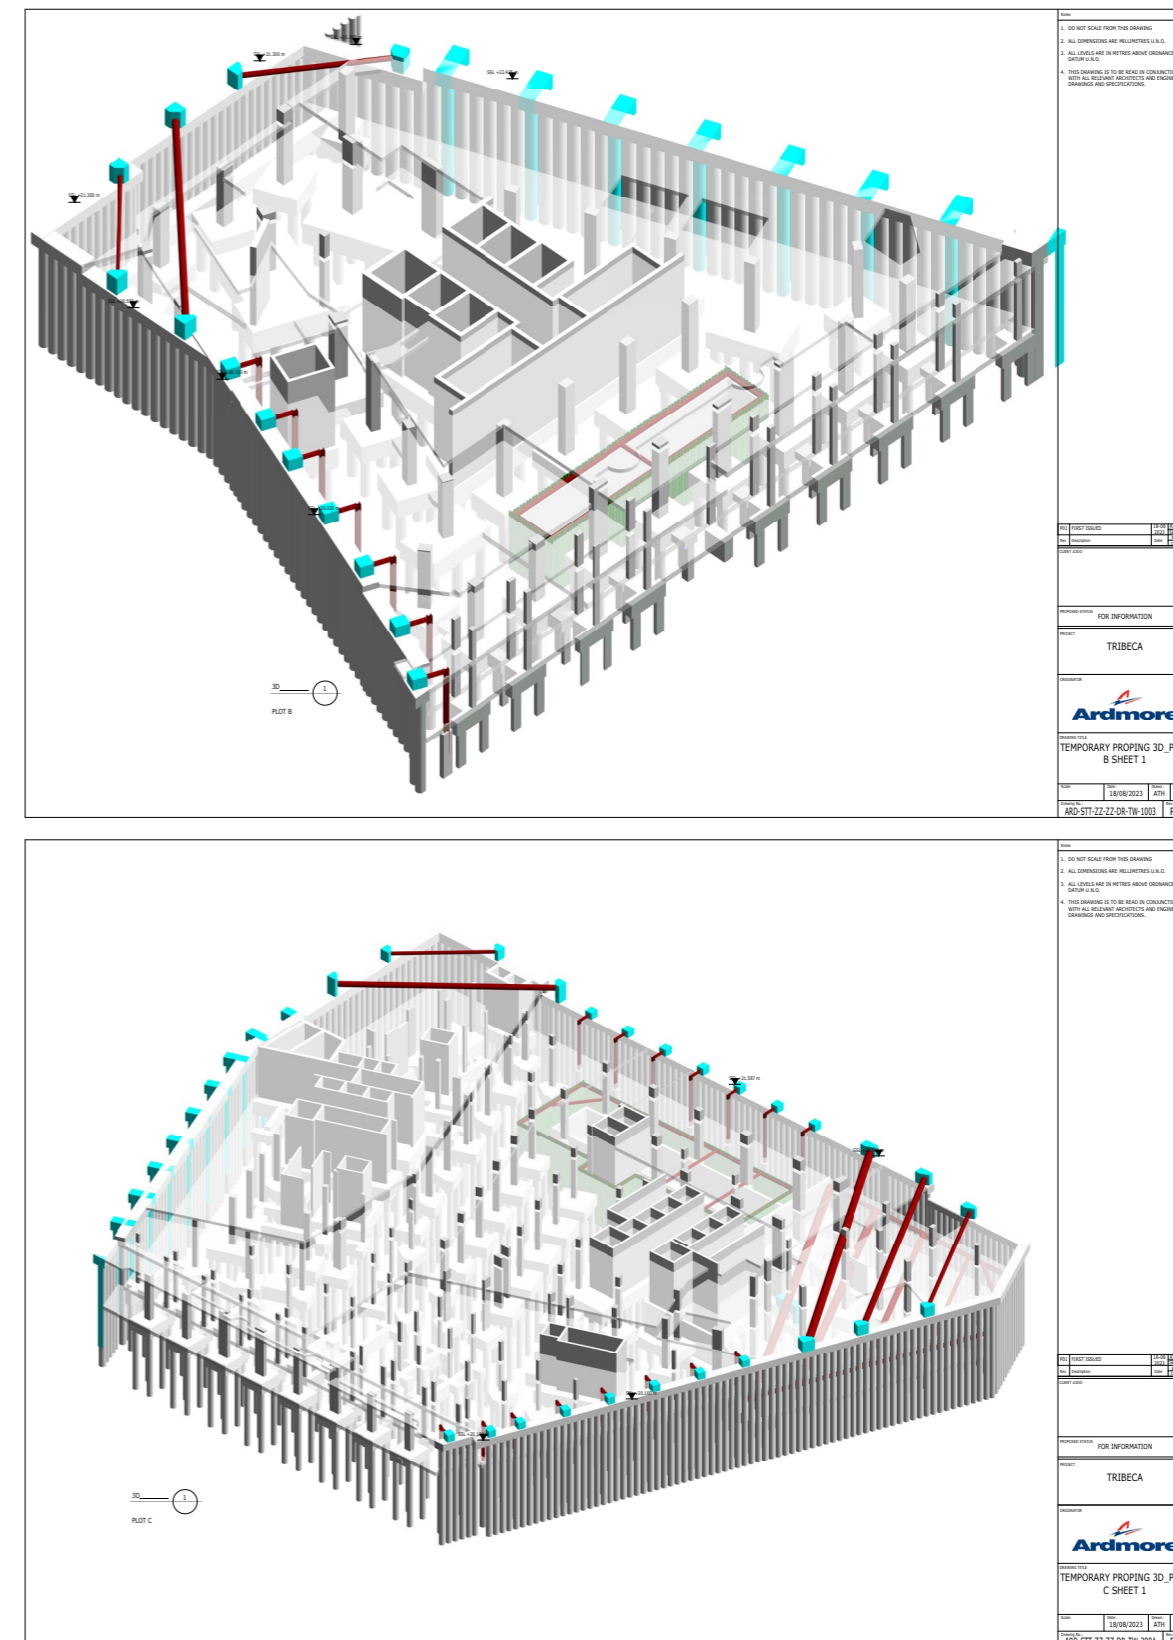

Figure 08: Indicative Temporary Works Strategy
- 10 As part of the temporary works strategy, concrete corbels will be installed on the top or face of the capping beams to allow for tying in the temporary buttress piles, king posts and flying shores as shown indicatively on **Figure 08**